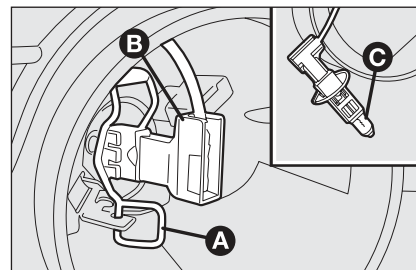

fig. 23
- ☐ release the bulb holder catch **A**-fig. 23;